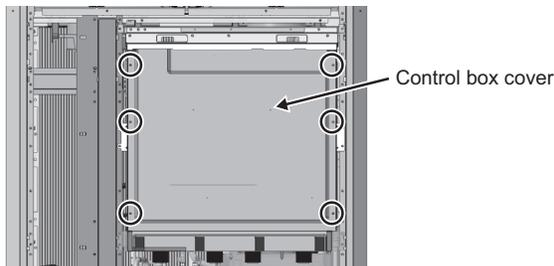

Fig. 30
- (2) Remove the control box cover and remove the wiring connected to the unit from the control box. (Six screws: Fig. 30)